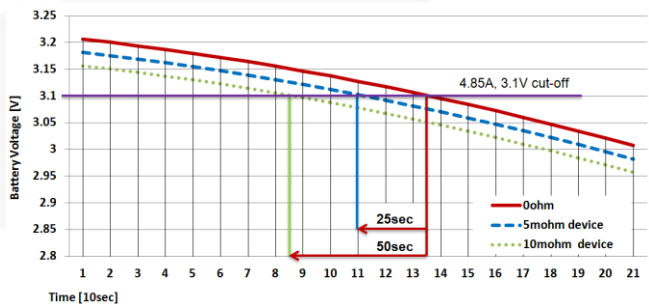

Figure 5. Discharging Cut-Off Time Comparison by Battery Switch RDS(ON) Variation (9700 mAh, 0.5C Discharging)
The battery switch affects battery run-time. The discharging voltage drop of battery switch moves the discharging cut off time earlier. From Figure 5, at the condition of 4.85 A linear discharging current and 3.1 V cut off, the 5 mΩ and 10 mΩ P-channel MOSFET reduce the battery run-time by 25 s and 50 s, respectively, compared to the ideal zero RDS(ON) switch. The battery switch RDS(ON) must be as lower as possible to reduce charging time and lengthen battery run-time.